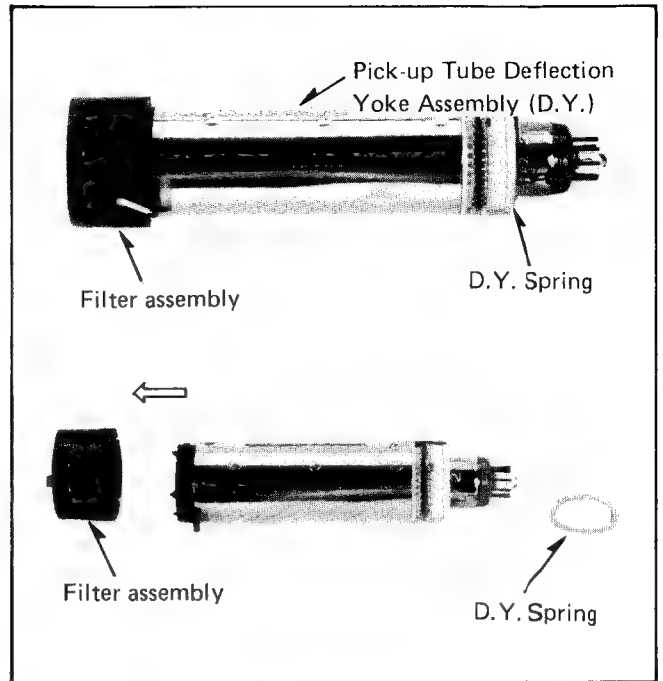

Fig. 7.
- 3-8. Remove the pick-up tube D.Y. assembly with the filter assembly (see Fig. 7).
- 3-9. Remove the filter assembly and the D.Y. spring from the pick-up tube D.Y. assembly (see Fig. 7)